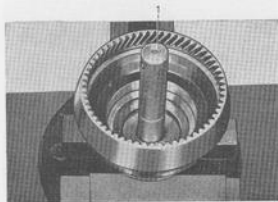

Fig. 4-60: Fitting bush, output shaft
1. Push the bush on to the output shaft with drift 2417, see Fig. 4-60. Press the front bearing to the output shaft with drift 2412.